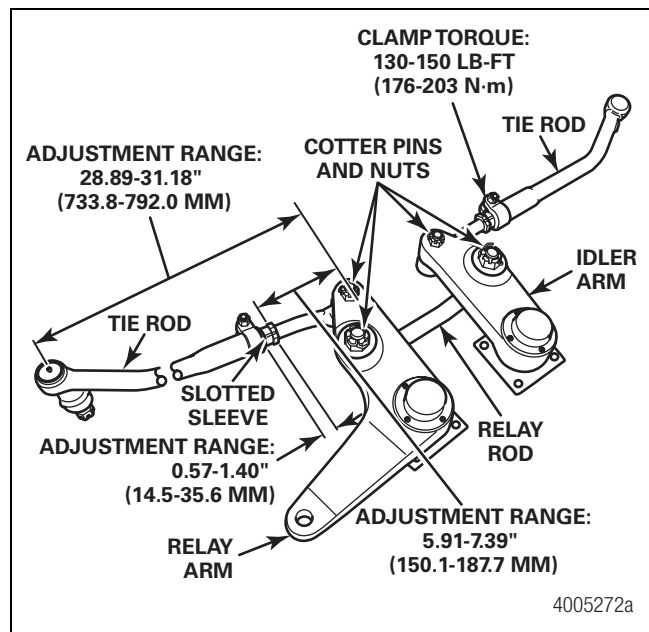

Figure 8.8
- C. Verify that the tie rods are the correct length and within 1/8-inch (3 mm) of each other. The tie rod end and the adjusting sleeve must have the correct engagement with the tie rod. Figure 8.8.
- D. Tighten the tube clamp nut and bolt on each end of the cross tube to 130-150 lb-ft (176-203 N•m). Ensure that the tie rod is within the adjustment range. Figure 8.8.